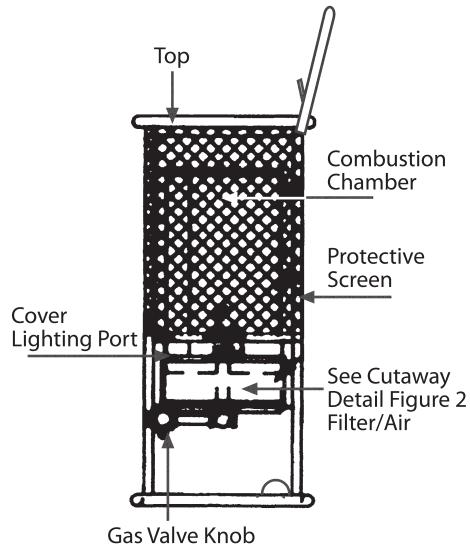

Figure 1
- 3 Turn the gas valve knob clockwise to the "OFF" position. See Fig. 1 and Fig. 2 for location of appliance parts.
- 6b To light the pilot, move the lighting hole cover aside (see Fig. 1) and place a lighted match into the hole. Depress the gas valve knob and hold while lighting and observing the pilot burner. Ensure that the pilot burner ignites from the match. Allow the pilot to burn approximately 30 seconds before releasing the gas valve knob. If pilot does not remain lighted, repeat the lighting operation allowing a longer period of time before releasing the gas valve knob.
- 7 Turn the gas valve knob counter-clockwise to the "ON" position (see Fig. 1). The burner will light. **DO NOT operate the heater in any other than the full "ON" position.**